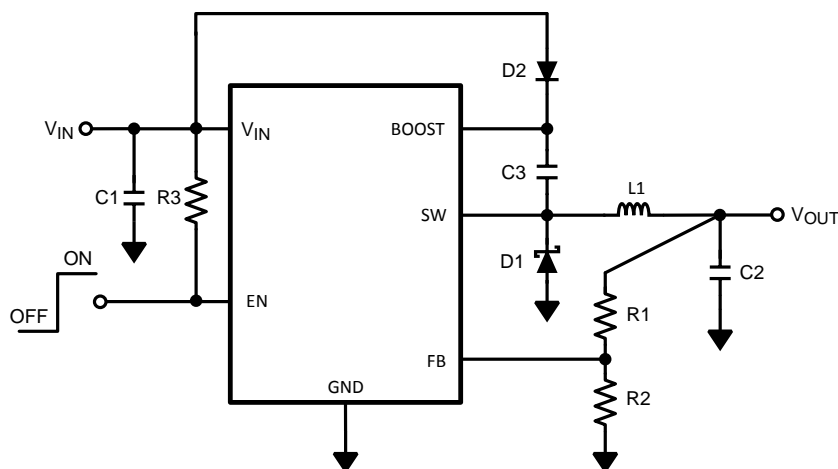

Figure 15. LM2736X (1.6 MHz)  $V_{BOOST}$  Derived from  $V_{IN}$  5 V to 1.5 V / 750 mA
Table 1. Bill of Materials for Figure 15
**Table 1. Bill of Materials for Figure 15 (continued)**